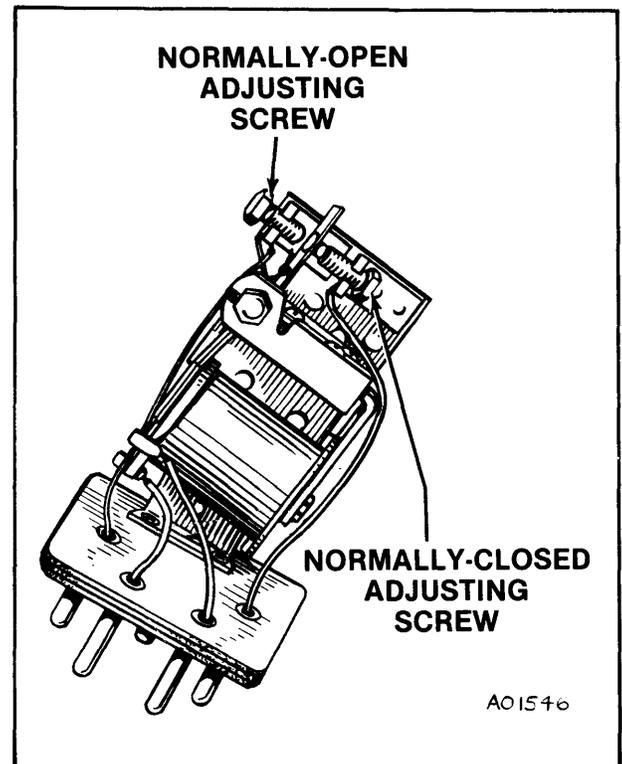

Figure 6-2. TTS 39XF D Relay Adjustments
5. On the D relay, first check to ensure that the normally-open contact adjusting screw is backed out enough so that the contacts do not make when the relay is energized. See Figure 6-2.